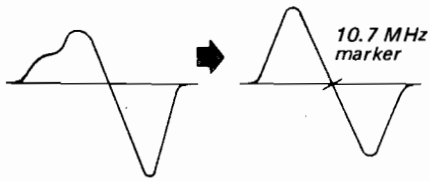

Fig. 3-6
3. Turn the core of discriminator transformer (IFT F203) to obtain the S curve response shown in Fig. 3-6.